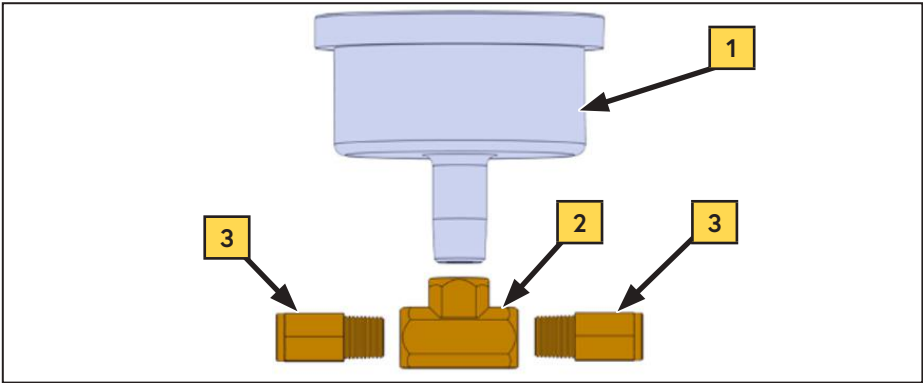
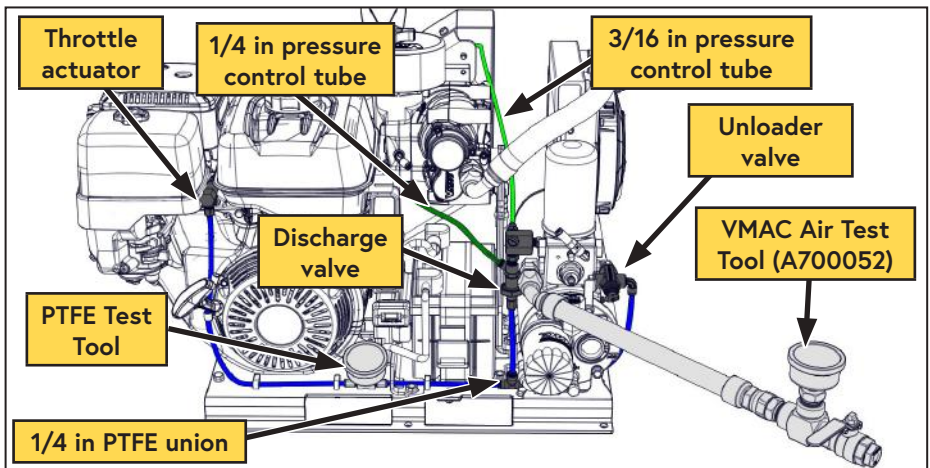

Figure 44 — PTFE Test Tool
Figure 56 — Test equipment installed
A PTFE test tool can be constructed and used to test the unloader valve and throttle actuator function (Figure 44, Table 6).
- ☐ Install a test tool on the system outlet (Figure 56).
- ☐ Install the PTFE test tool (Figure 44 and Table 6 on page 69) on the 1/4 in throttle tube (Figure 56).